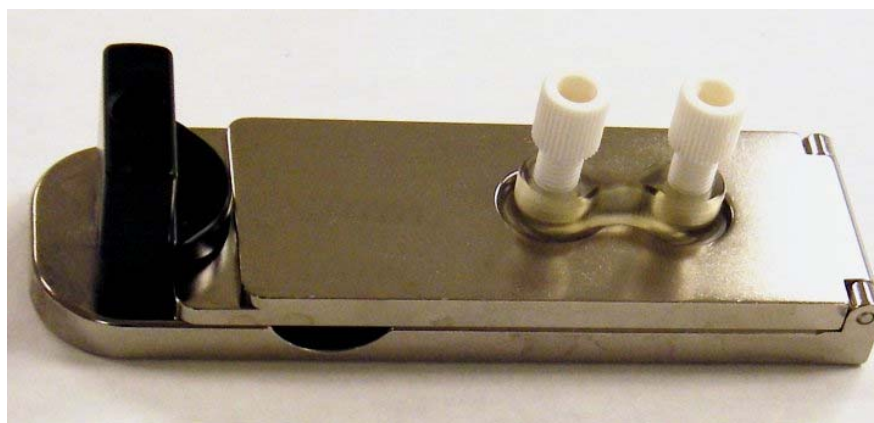

Figure 4. Assembly of the Stripping Clamp with the screw plugs.
5. Hold the assembly horizontally and screw the Plugs into the solution portals (see Figure 4). Avoid spilling of the Stripping Solution. If it spills, carefully wipe all liquid from the surface of the stripping clamp with a paper towel/tissue.